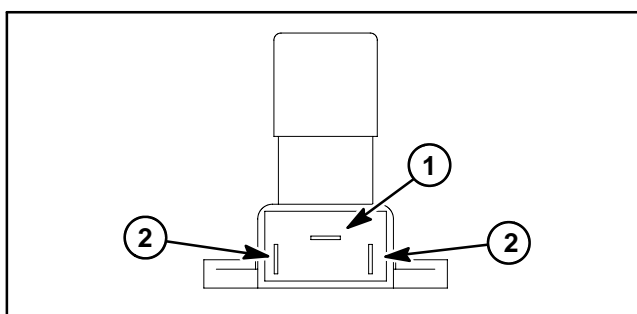

Figure 21
2. The switch terminals are shown in Figure 21. Continuity should exist between the common terminal and only one of the side terminals. When the switch is depressed, continuity should exist between the common terminal and the other side terminal. Regardless of switch position, there should never be continuity between the two side terminals.